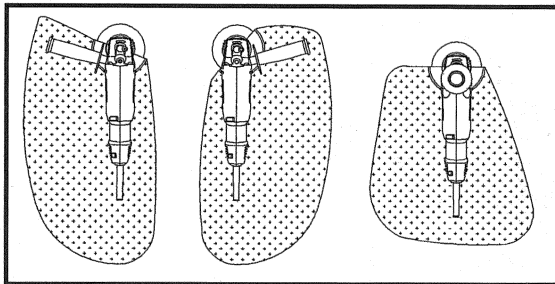

Fig. 4
3. Position wheel guard to the machine so as to place the guard between the operator and the grinding wheel (see Fig. 4).
**WARNING:** Always make sure the wheel guard is positioned between operator and the wheel, so that flying chips or pieces of a wheel that might break will be deflected away from the operator (see Fig. 4).